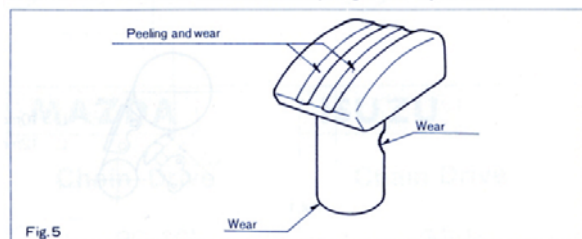

Fig.5
D) Replace the tensioner (Fig. 5) when: